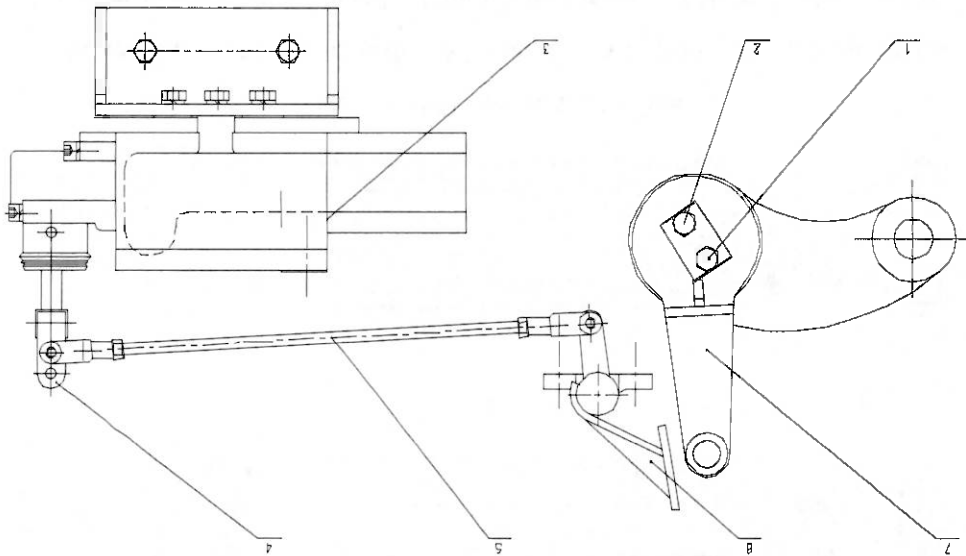

Figure 5-44 Lifter Height Limiter
- The height can be achieved by adjusting limit push plate on the right side of lifter shaft as shown in figure 5-44. Unscrew the nut (1) and nut (2), adjust limit push plate counterclockwise, the higher it is lifted when the limiting push plate for limiter is adjusted counterclockwise, vice versa.